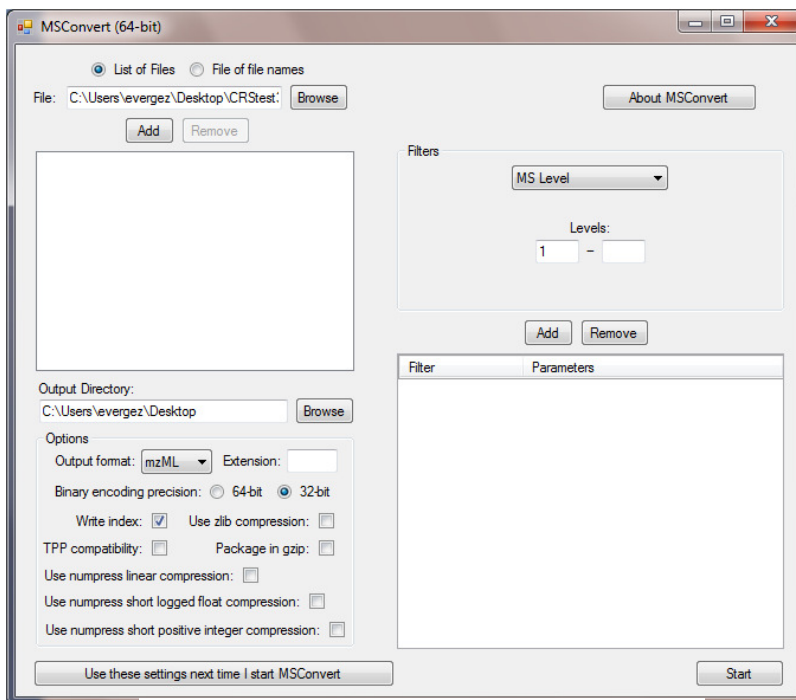

Figure 11 MS Convert Settings
- c. The user should use the settings shown in Figure 11 to convert the data file..